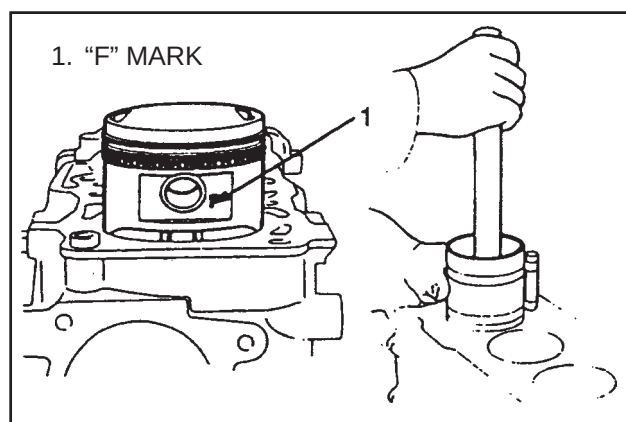

FIGURE 38. INSTALL THE PISTON
3. Apply clean engine oil to the piston assembly. Install the bearings for the connecting rods. Install the piston into the correct cylinder making sure the “F” is toward the front (timing belt end) of the engine. See FIGURE 38.